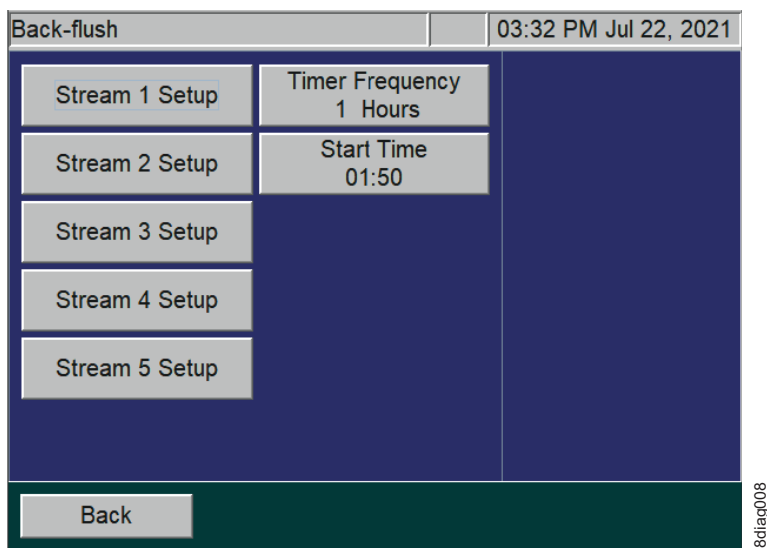
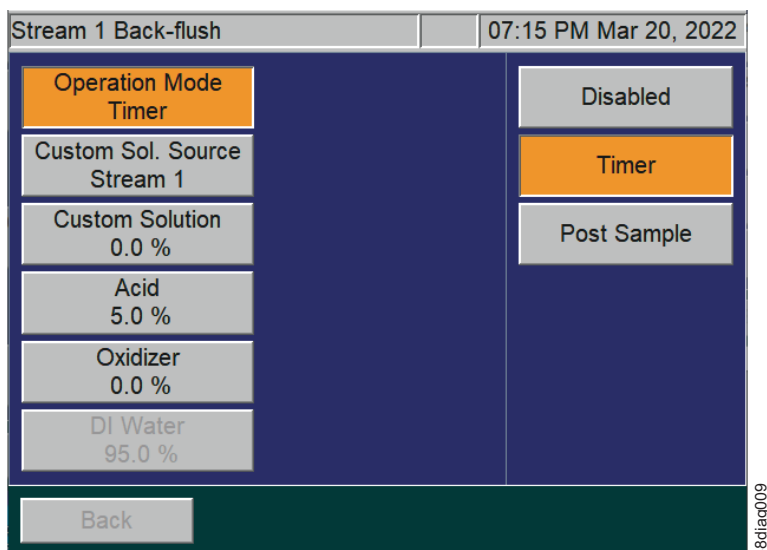

Figure 65: Back-flush screen
Figure 66: Stream 1 Back-flush screen
2. Next choose the **Stream Setup** button (such as **Stream 1 Setup** button) to customize the following settings for each applicable stream (see Figure 65: Back-flush screen and Figure 66: Stream 1 Back-flush screen).